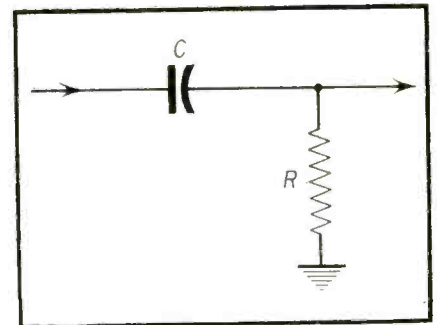

Fig 4A—An RC coupling arrangement such as used in a typical video amplifier stage.
A. The situation noted above is illustrated in the photo of Fig. 4B. The vertical sync pulse falls in the display because of differentiating action in the video amplifier. For example, the coupling capacitor C shown in Fig. 4A may be found to be too small, or the grid-leak resistor R may be found to be too small. As a result, the theoretical signal shown in the diagram becomes distorted in practice as seen in the photo. (Note that the scope display is "upside down" with respect to the diagram.)